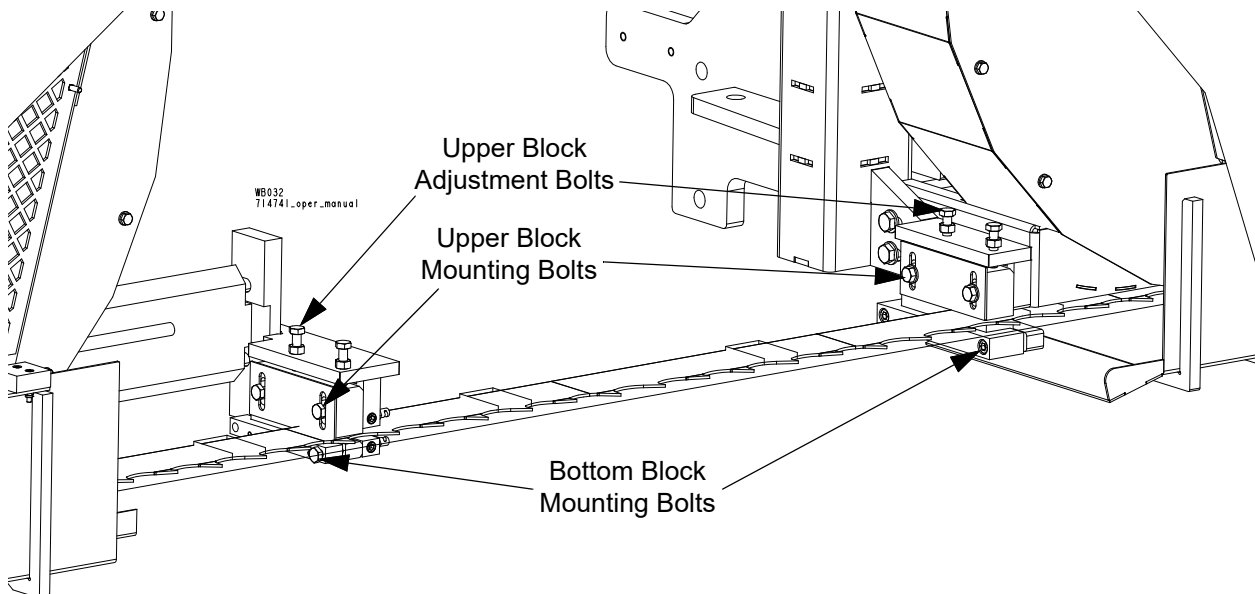

FIG. 5-23
**See Figure 5-23** Loosen the mounting bolts of the upper blocks. Using the adjustment bolts, adjust the upper blocks of the blade guide so they deflect the blade 1-2mm (the distance from the rod to the blade in both positions should be smaller than 1-2mm). Tighten the mounting bolts of the upper blocks. Then loosen the mounting bolts of the bottom blocks. Adjust the bottom block of the blade guide so it slightly touches the blade. Then tighten the mounting bolts.